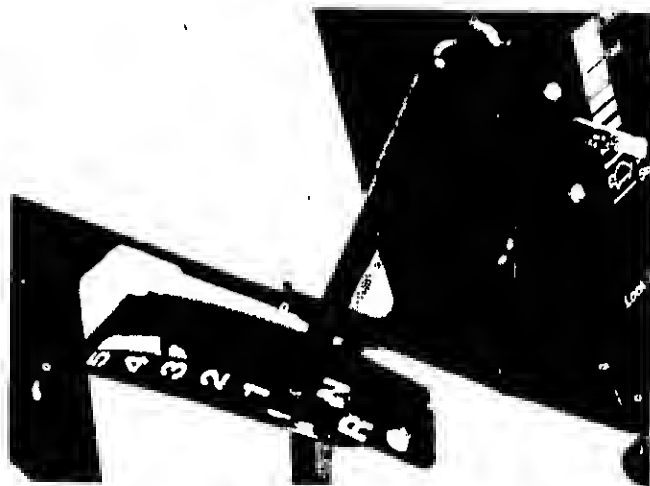

FIGURE 16.
The transaxle has five forward gears, "NEUTRAL" and "REVERSE." You do not shift through the gears on the transaxle as you would in an automobile. Pre-select the gear appropriate for the job you are doing. (See figure 16.)
3. Place the gear shift lever in the "NEUTRAL" (N) position. See figure 16.
6. Select one of five forward gears. See figure 16.